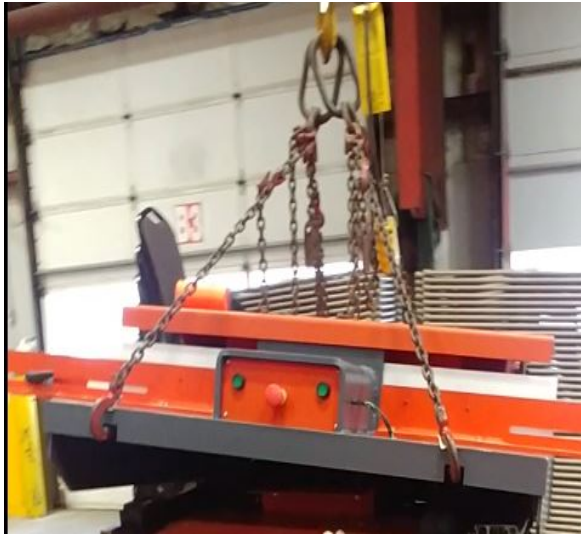

**FIG. 4-5**
7. Unfasten and remove the box fastened to the underside of the table at the rear center, along with the hoses and wires. See Fig. 4-5.